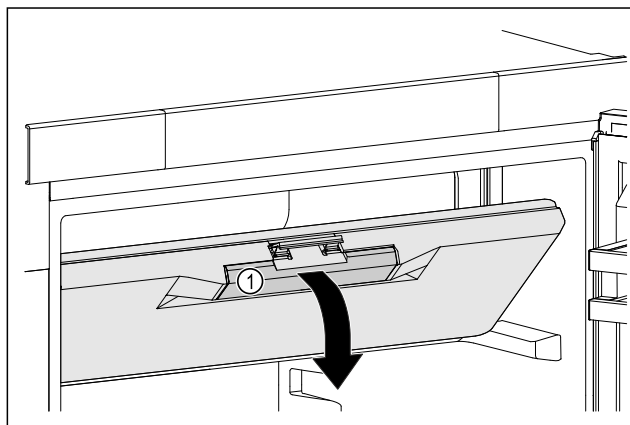

Fig. 41
- Hold the freezer compartment door by the recessed handle Fig. 41 (1).